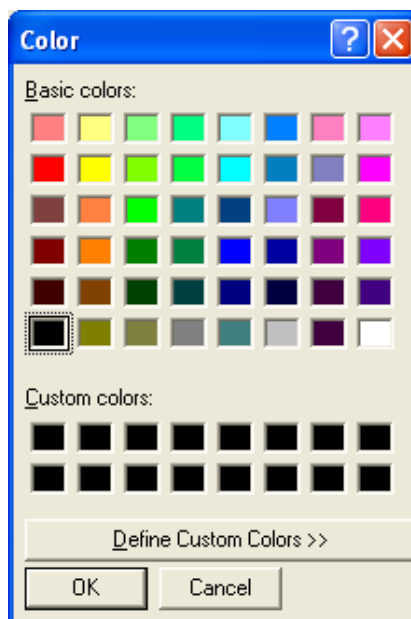

Fig.3-11 Choose color
- ⊕ Color  : To choose pen's "color" click on the color button and it will pop up Fig. 3-11 dialog box.
- ⊕ Edit Text Color  : Text color can be changed by clicking “edit text color” button and it will pop up Fig.3-11 dialog box.
- ⊕ Edit Text Background Color  : Text background color can be changed just by clicking “edit background color” and it will pop up Fig.3-11 dialog box.